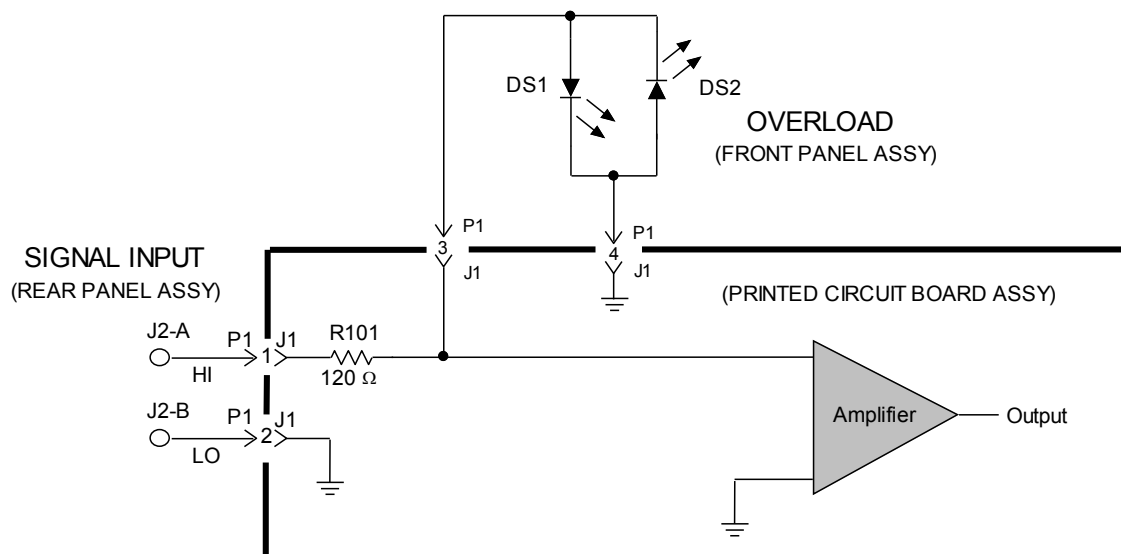

Figure 3-59.
- 3-28. A partial schematic of an amplifier circuit is given in Fig. 3-59. In this case the amplifier's input signal is applied via input jacks *J2-A* and *J2-B* located on the rear panel. LEDs *DS1* and *DS2* are located on the front panel. The amplifier and resistor *R101* are located on the main printed circuit board (PCB) assembly. *J1* is the connector (receptacle) mounted to the printed circuit board. *P1* is the mating plug. The pin numbers (e.g., *J1-3* and *J1-4*) are also indicated. Explain the purpose of the LEDs and the operation of the circuit.